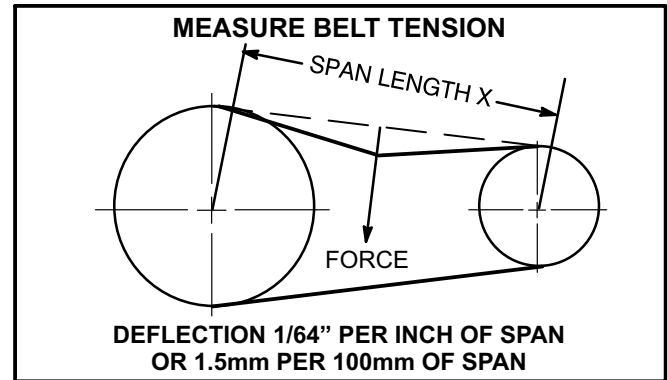

FIGURE 8
- 1- Measure span length X. See figure 8.
- 2- Apply perpendicular force to center of span (X) with enough pressure to deflect belt 1/64" for every inch of span length or 1.5mm per 100mm of span length.